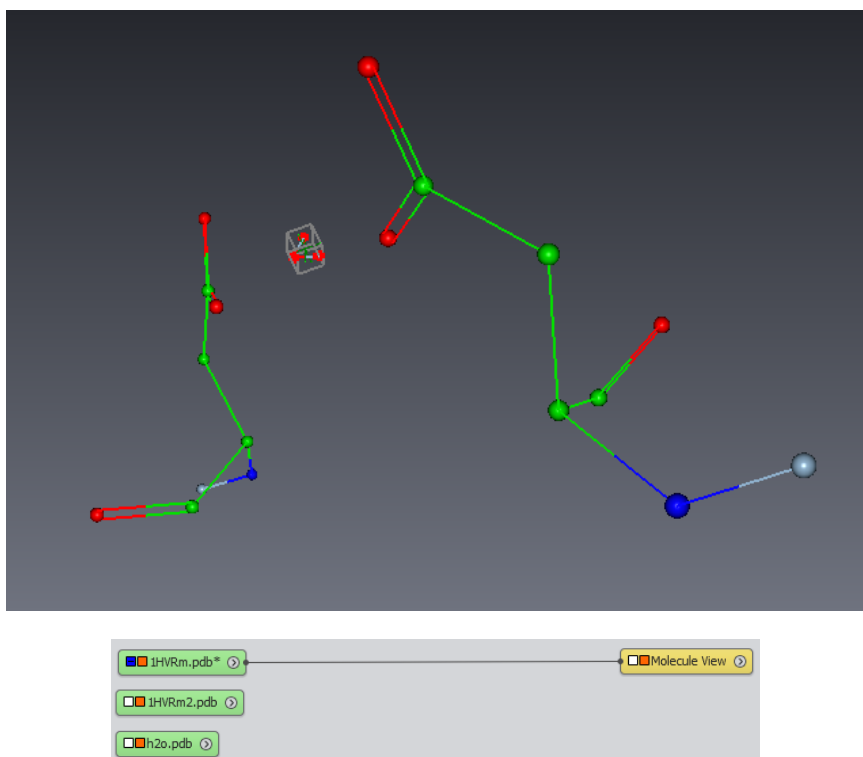

Figure 21.6: Moving the water molecule to the desired location
- Left-click on the dragger and hold the mouse button down. You can now translate the dragger in different planes depending on the side you clicked on. Move the water molecule between the two amino acids as shown in Figure 21.6.